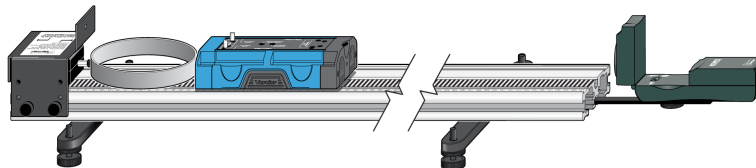

Figure 1
2. Attach the Motion Detector and bracket to one end of the Dynamics Track (see Figure 1).